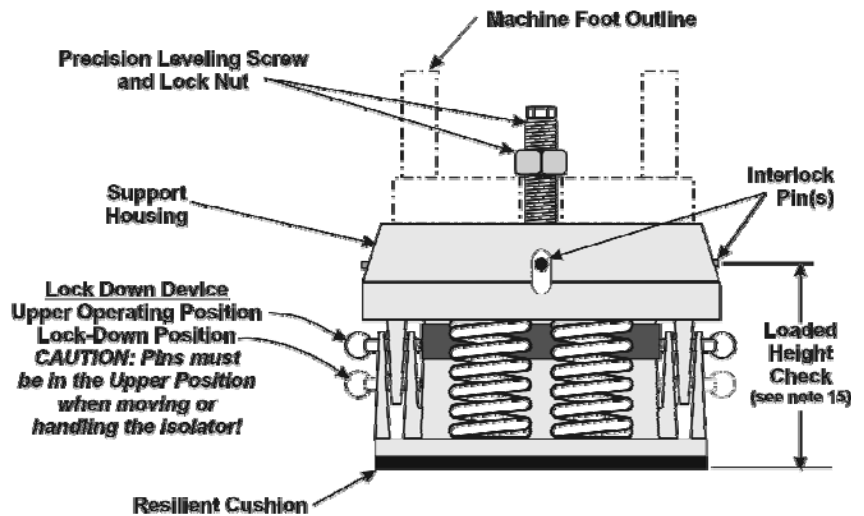

Figure 2
Handling Caution: Do not tip isolator onto its side or lift isolator with Lock-Down Device Clevis Pins removed! See Figure 2 and tag attached to clevis pin on the isolator.
To engage the device, remove the clevis pins from the top position and reinsert them *fully* into the lower position as shown in Figure 2. After all leveling adjustments are completed, the pins *must* be returned to their original positions before operating the machine.
15. Measure the loaded height of all the isolators from the center of the interlock pin to the floor (see Figure 2) and compare it to the table below. If the isolators fall within their proper range, proceed to Step 18.